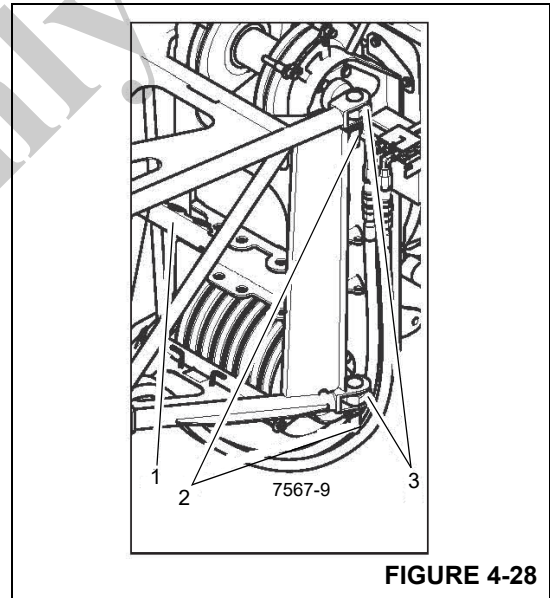

FIGURE 4-28
9. Remove the pins out of the holders (1) (Figure 4-28). Install the pins (2) into the mounting lugs (3) and secure with the retaining clips.